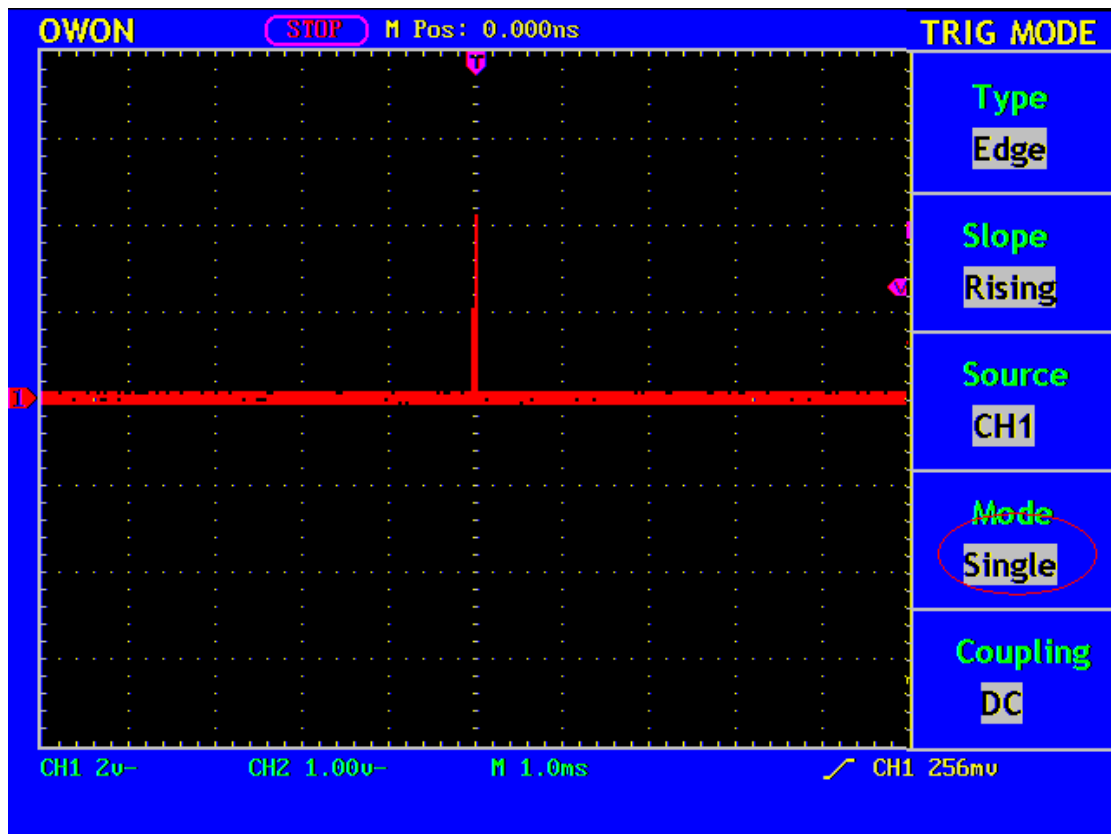

Fig. 55 Capture the Single Signal
10. If the **Trigger State Indicator** at the top of the screen does not indicate **Ready**, push down the **RUN/STOP** button and start **Acquire**, waiting the emergence of the signal in conformity with the trigger conditions. If a signal reaches to the set trigger level, one sampling will be made and then displayed in the screen. With this function, any random occurrence can be captured easily. Taking the burst burr of larger amplitude for example, set the trigger level to the value just greater than the normal signal level, and then push down the **RUN/STOP** button and wait. When there is a burr occurring, the instrument will trigger automatically and record the wave form generated during the period around the trigger time. With the **HORIZONTAL POSITION** knob in the horizontal control area in the panel rotated, you can change the horizontal position of the trigger position to obtain the negative delay, making an easy observation of the waveform before the burr occurs (see Fig. 55).